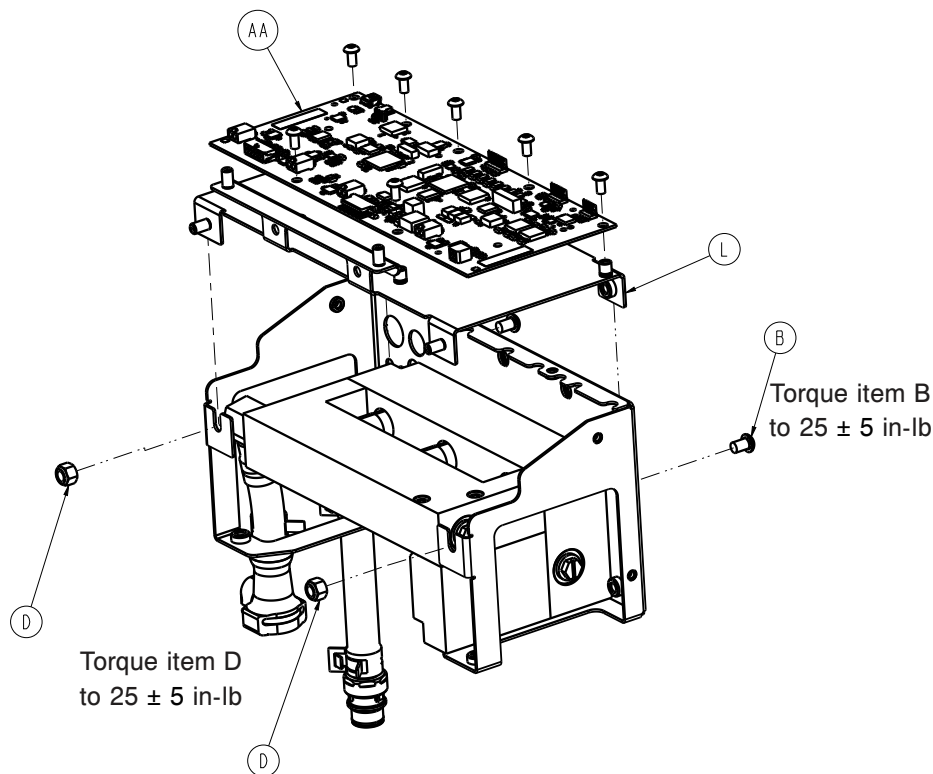

Figure 45 – MCB bracket
15. Using a T27 torx, remove and save the two screws (B) (Figure 45) that secure the MCB bracket to control assembly bracket.